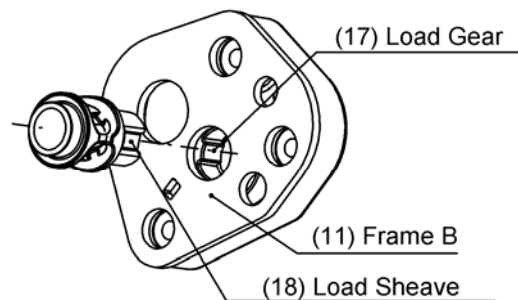

Figure 5-3 Load Sheave Attachment to Frame B
- 5) Align (18) Load Sheave with (17) Load gear as viewed from the hole of (11) Frame B, and insert the end of the sheave as shown in Figure 5-3.